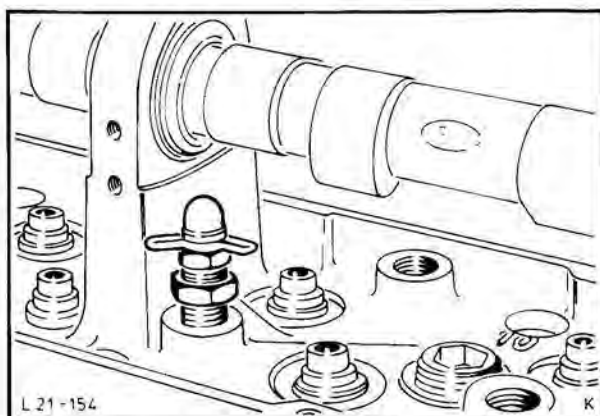

Fig. 158. Fit ball pin with lock nut and retaining clip
13. Fit ball pin complete with lock nut, Fig. 158. Lubricate valve guides and valves with hypoid oil SAE 80/90. Insert valves and cover valve splines with adhesive foil.